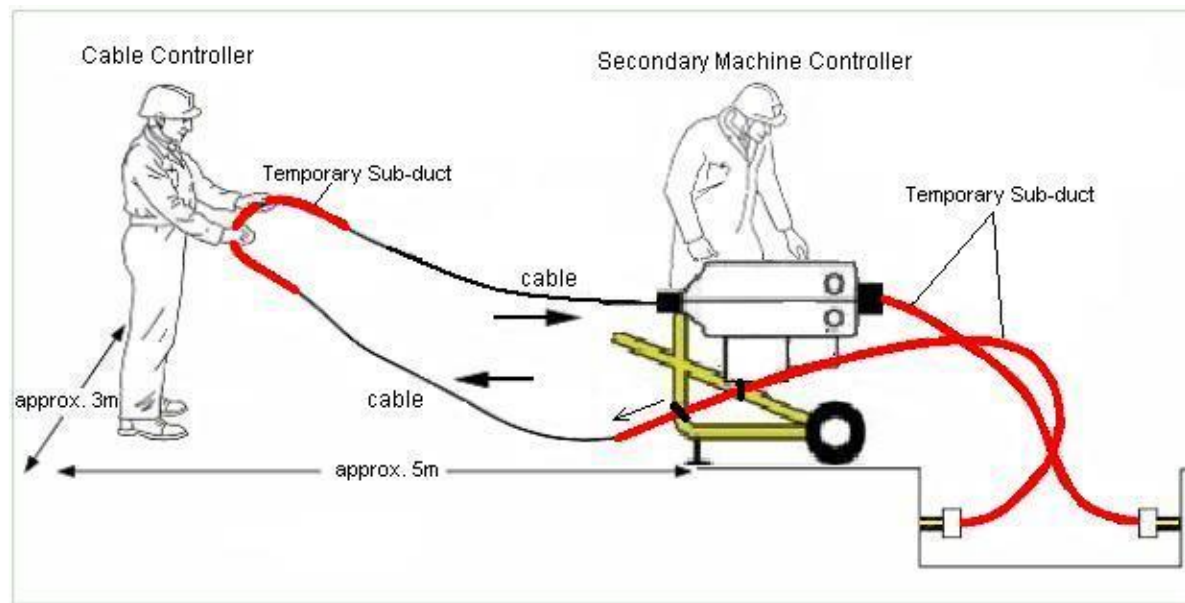

Figure 7 Schematic diagram showing correct position of plant and equipment at the Secondary Blowing Position
1. Set up and prepare the Secondary Blowing Position as shown in Figure 7. Add a temporary length of SDMB5 between the emerging sub-duct in the joint box and a suitable fixing point eg the Blowing Machine frame.
Note: Roadworks Guarding must be used to mark out the 3m x 5m area around the Cable Controller. A 10metre loop of cable is recommended between the emerging sub-duct and the rear of the Blowing Machine, to allow the slack cable to be controlled as shown in Figure 7. Failure to do this may make it difficult to accommodate the speed differences between the two blowing machines and fail to complete a smooth and continuous installation.